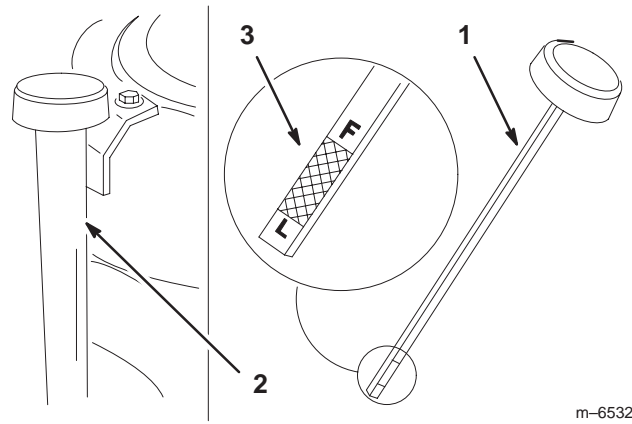

Figure 15
2. Clean around the oil dipstick (Fig. 15) so that dirt cannot fall into the filler hole and damage the engine.
3. Unscrew the oil dipstick and wipe the metal end clean (Fig. 15).
4. Slide the oil dipstick fully into the filler tube, but do not thread it onto the tube (Fig. 15). Pull the dipstick out and look at the metal end. If the oil level is low, slowly pour only enough oil into the filler tube to raise the level to, but not over, the **F** mark on the dipstick.
9. Clean around the oil dipstick and unscrew the cap (Fig. 15).
10. Slowly pour approximately 80% of the specified oil into the filler tube (Fig. 15). Refer to Servicing the Engine Oil, page 22.